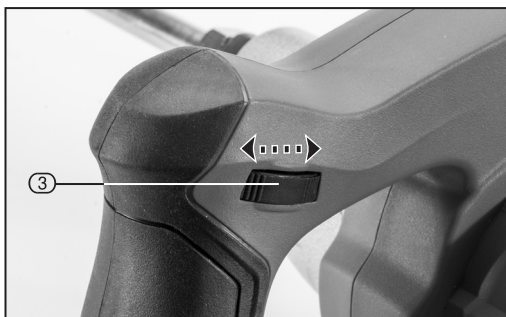

FIG. 3
7.2 PADDLE MIXER OPERATION – FIG.3
- Set the speed selection wheel (3) to a low speed.
- Gradually increase the mixing speed by turning the wheel (3) to the desired maximum speed (so that the substance will not splash and the tool will not be overloaded).